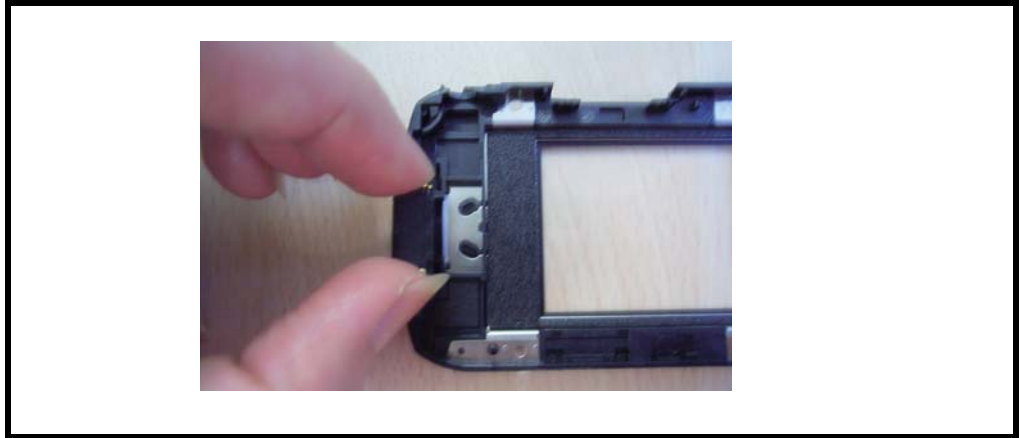

Figure 13. Removing Receiver
2. Remove receiver as shown in Figure 13.